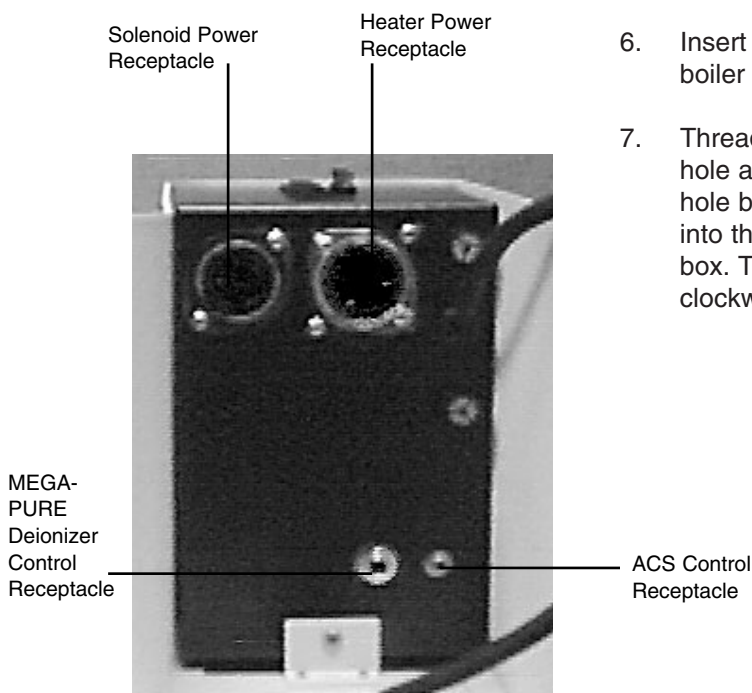

Figure 5 Control Bottom Connections
4. Plug the solenoid valve power cord (not shown) into the receptacle on the bottom of the control box "H." (See Figure 5.)
6. Plug the solenoid valve power cord (not shown) into the receptacle in control box "H" (See Figure 5.)
2. Plug input jack from ACS into ACS receptacle on bottom of still control box "H." (See Figure 5)